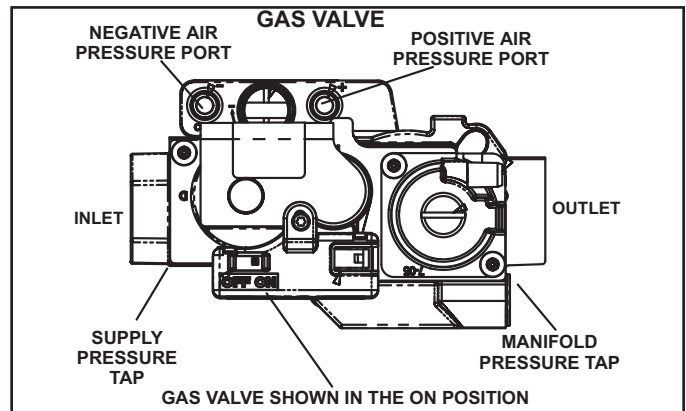

FIGURE 50
#### Gas Valve Operation (Figure 50)
- 6 - Move gas valve switch to OFF. See figure 50.
- 8 - Move gas valve switch to ON. See figure 50.